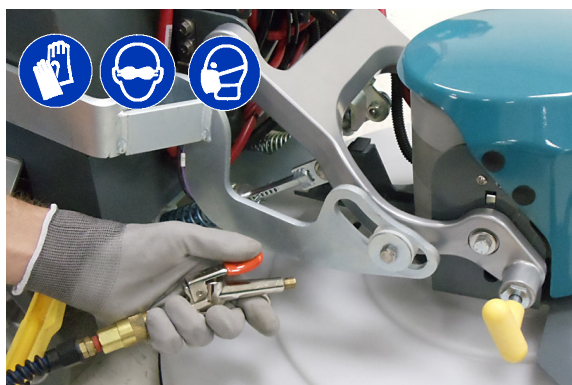

FIG. 33
2. Clean the burnishing head and pad motor of any dust buildup using an air pressure hose (Figure 33). Maximum air pressure 100 psi / 690 kPa.